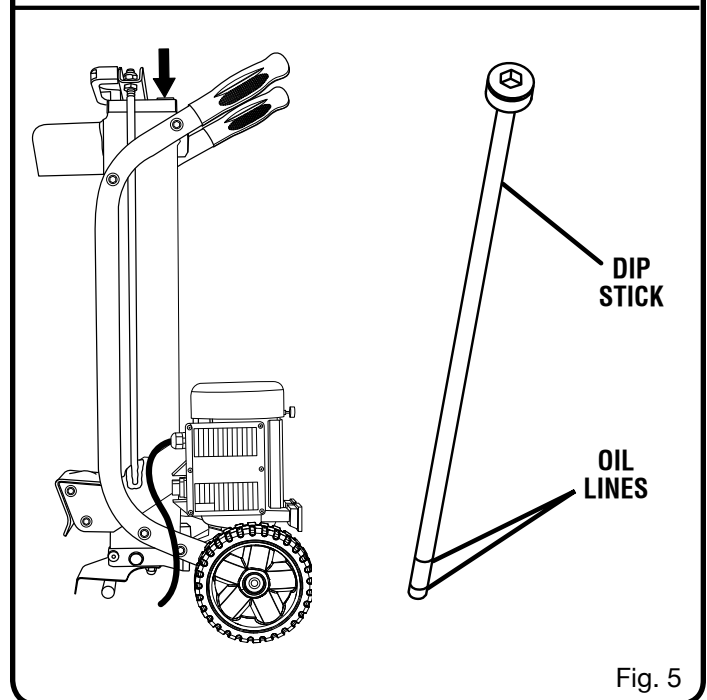

Fig. 5
**NOTE:** The oil level should be between the two grooves around the bottom of the dipstick as shown in figure 5.